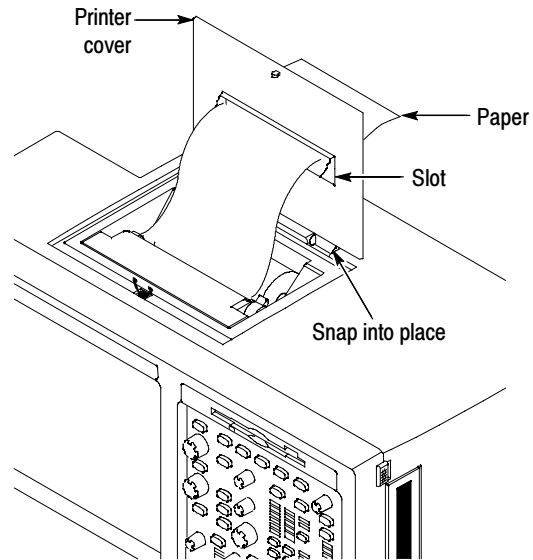

Figure 10: Install the printer cover
8. Snap the printer cover into the hinges and feed the paper through the slot in the printer cover. Close the cover. See Figure 10.